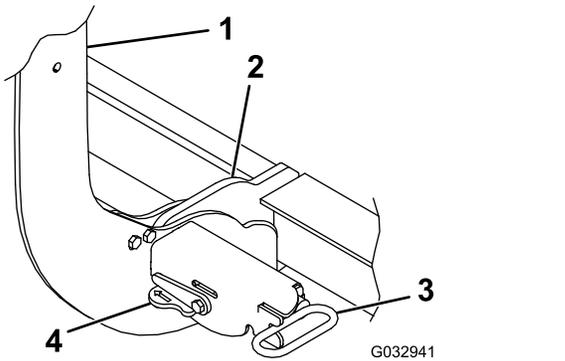

Figure 26
- Turn the levers on the couplers to the ON position (Figure 26).
- Ensure that both coupler spring pins have fully engaged the coupler (Figure 26).